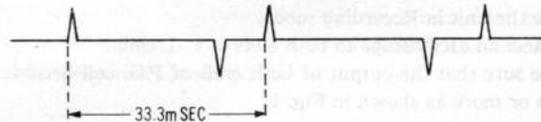

Fig. 6
4. Make sure that the waveform of M1 becomes as shown in Fig. 6.